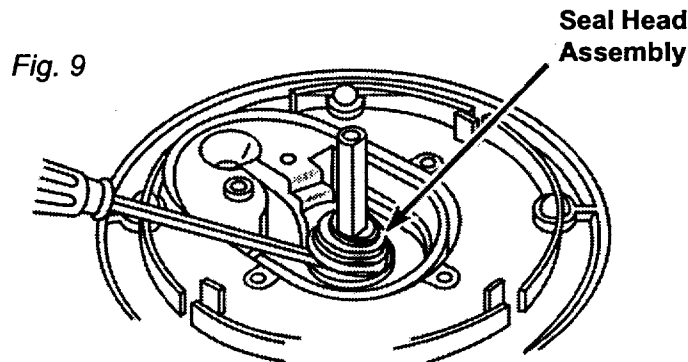

Fig. 9
- c. Using a small screwdriver, pry the head seal assembly off. (Fig. 9)